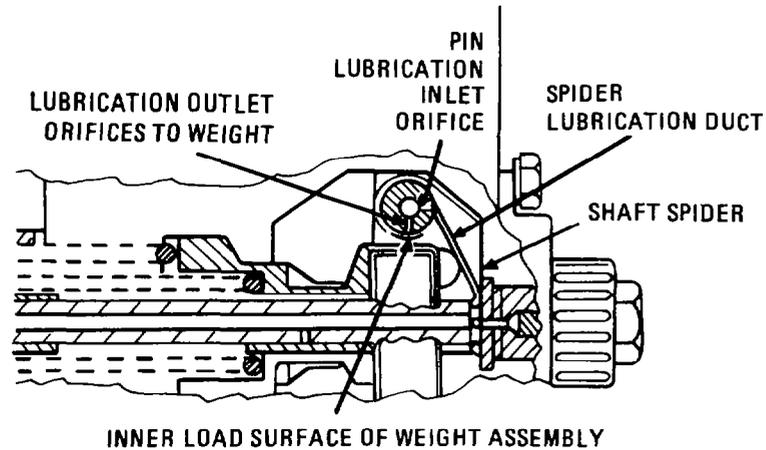

Fig. 131 — Positioning Weight Pin Lubricating Groove
- f. Secure the weights (item 84) to the spider (item 81) by pressing the weight pin (item 85) into position.
NOTE: Position the weight pin (item 85) so that the centre lubricating groove is directly in line with the weight shaft spider lubricating hole (see fig. 131).